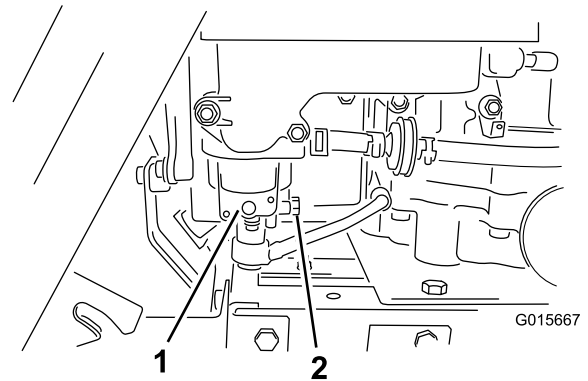

Figure 24
3. Open the hood and locate the carburetor under the air cleaner (Figure 24).
Note: The carburetor float chamber plug faces toward the back of the machine (Figure 24).